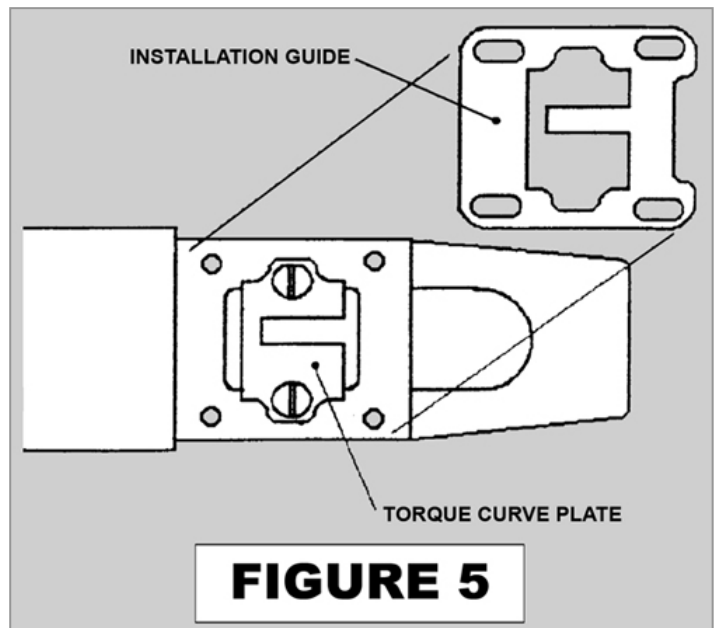

FIGURE 5
- 17) Place the black installation guide provided with the camplate kit over the torque curve plate (see Figure 5 & 6). This guide plate prevents objects from entering the open fuel pump and helps position the new torque curve plate.